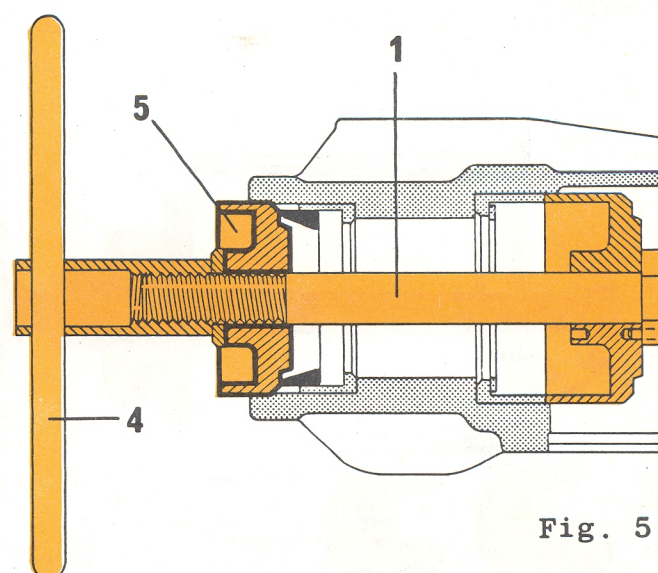

Fig. 5
**10** To fit the front bearing outer race (see fig. 5), repeat the steps 3 and 9, keeping in mind that the position of cup "5" must be reversed with respect to the position it had at step 9.